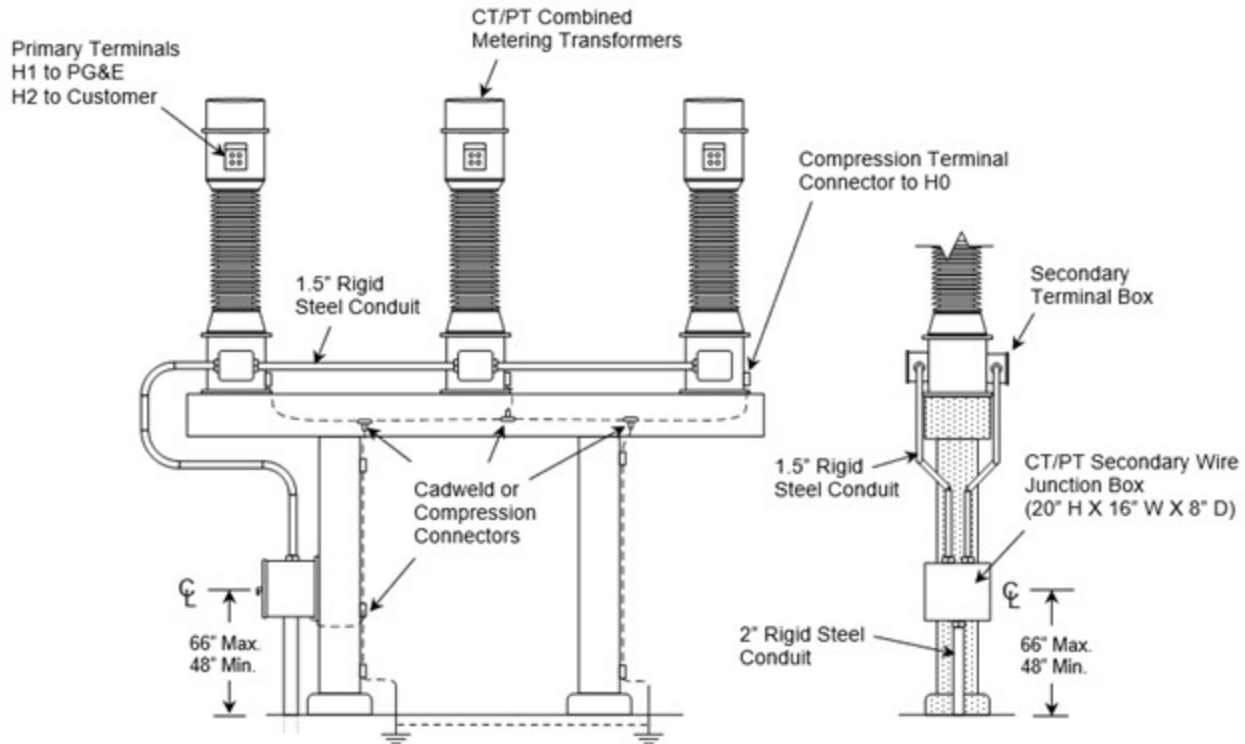

Figure 3
23. The H1 and H2 terminals must be on the same side as the secondary terminal box as shown in Figure 3.